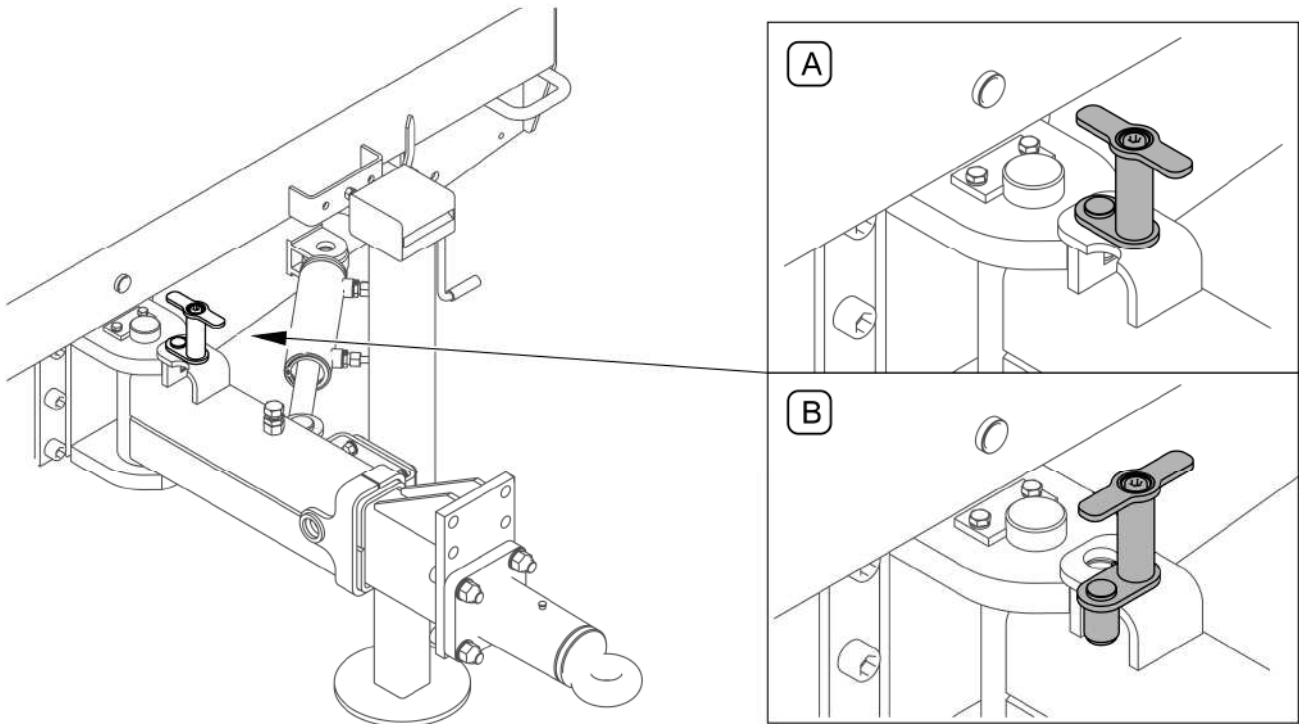

FIG. 4.3 Drawbar turning interlock
Before starting work with the sweeper, confirm that the drawbar turning interlock is unlocked (B) (FIG. 4.3). Drawbar turning interlock is used during transport or when the machine is parked.
While operating the sweeper, the drawbar turning interlock should be unlocked (B, FIG. 4.3)